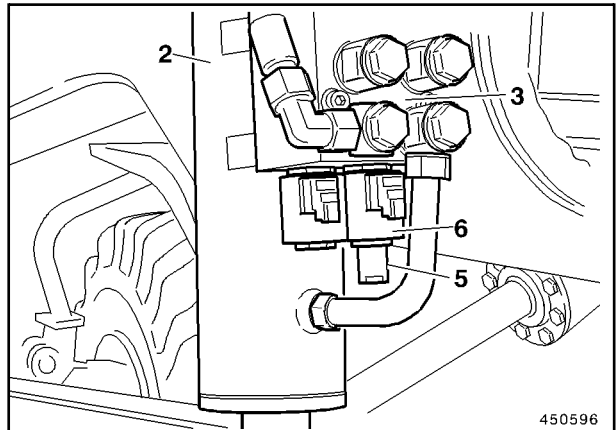
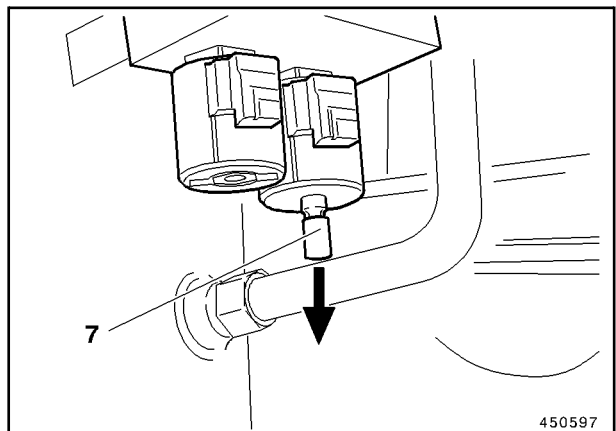
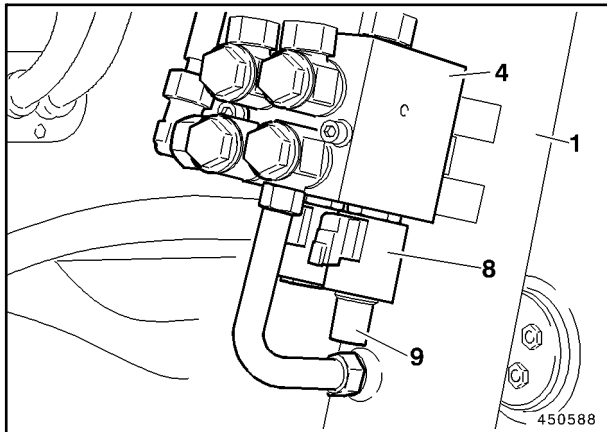

Fig. 4
Fig. 5
Fig. 6
To actuate the valve, unscrew protective cap (5, Fig. 4), holding the solenoid element (6) in its position. Lower the blade by pulling out the red valve shaft (7, Fig. 5).
To actuate the valve, unscrew protective cap (9, Fig. 6), holding the solenoid element in its position. Lower the blade by pulling out the red valve shaft (7, Fig. 5).
If the blade is to be lifted, proceed as described for lowering the right/left side of the blade. After pulling out the pertinent red valve shaft (7, Fig. 5), the respective side of the blade can be lifted.